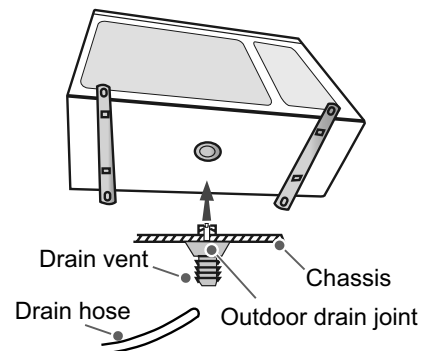

Fig.19
- (1) Connect the outdoor drain joint into the hole on the chassis.
- (2) Connect the drain hose into the drain vent. (As shown in Fig.19)